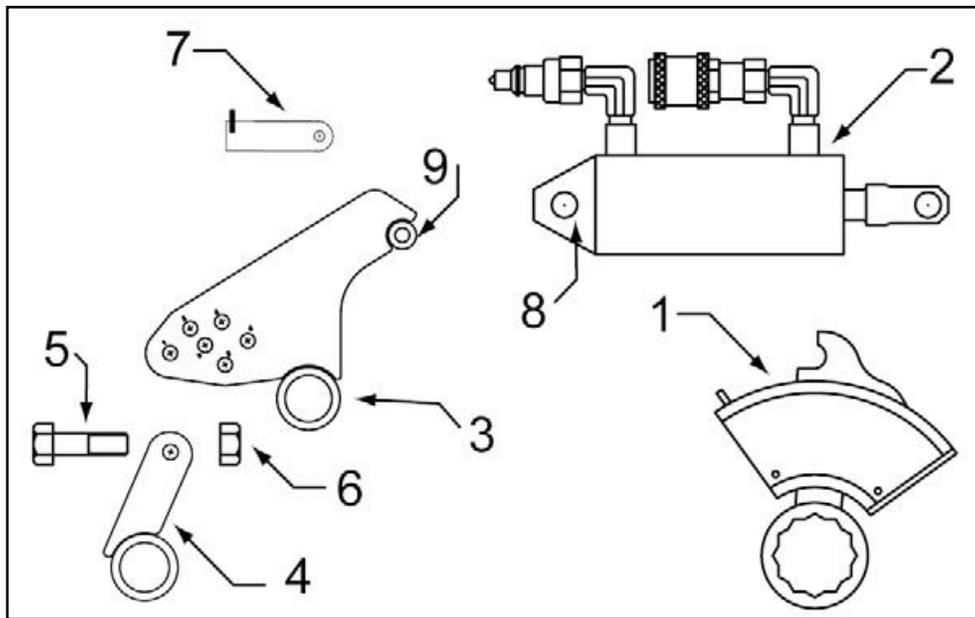

Figure 6
4. Refer to Figure 6 during assembly.